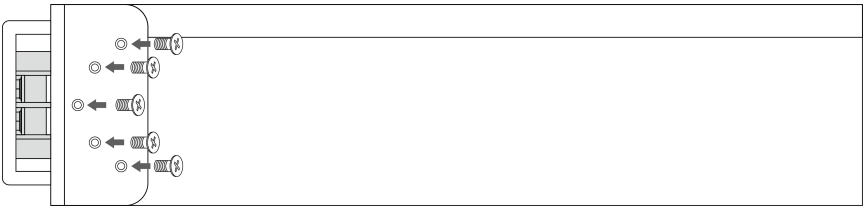

Figure 4-2
- a. Use the 10 screws of M4*8 to fix two fixed ears to the battery, as show in Figure 4-2.